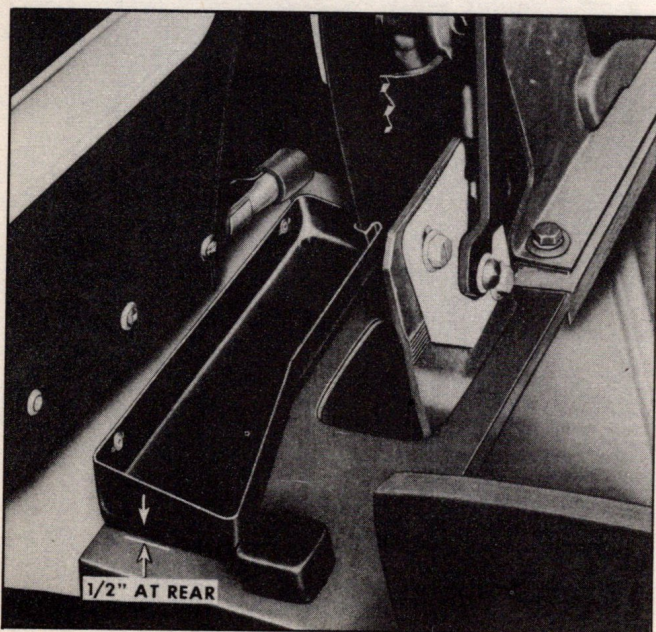

Fig. 9 Position of Plastic Gutter
6. Place the plastic gutter and hose in position in the body with the rear end of the gutter about 1/2" higher than the forward end as shown in Fig. 9. Make sure the gutter is as far forward as possible. Drill or punch two small diameter holes into the rear quarter inner panel. Cement a 1/2" square wood shim under the rear edge of the gutter to give additional support. (See Fig. 10.)